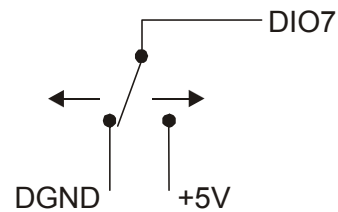

Figure 7. Schematic showing DIO7 detecting the state of a switch
When you configure the digital bits for input, you can use the digital I/O terminals to detect the state of any TTL-level input. Refer to the switch shown in and the schematic shown in Figure 7. When the switch is set to the +5 V USER input, DIO7 reads *TRUE* (1). If you move the switch to DGND, DIO7 reads *FALSE* (0).